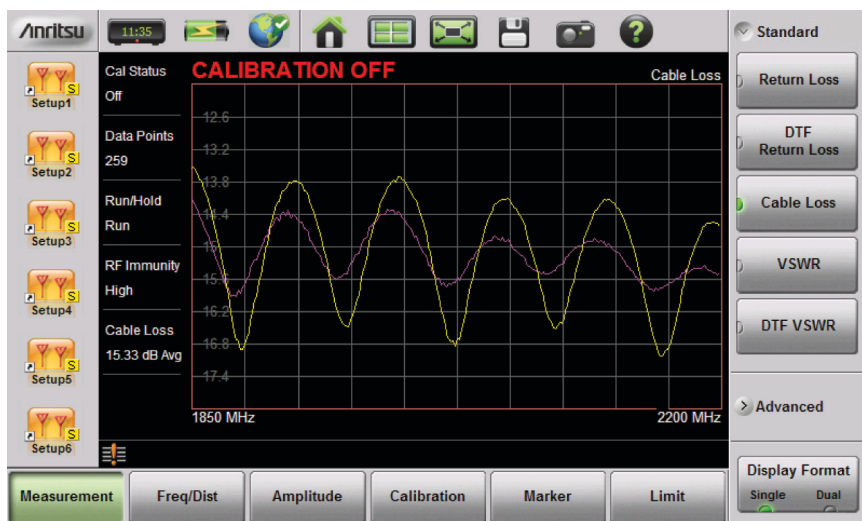

Figure 8-10. Recalled Measurement and Active Trace
6. Figure 8-10 illustrates a recalled measurement and active trace.
The recalled measurement is the purple trace and is overlaid on the current active (yellow) trace. In Figure 8-10, the recalled measurement is used to compare the cable loss of two different RF cables. Recalled measurements are automatically saved to trace memory for use in trace match functions. To see the recalled measurement and the current measurement simultaneously, select **Trace & Memory** in the Trace Display submenu. Refer to “Trace” on page 3-44.